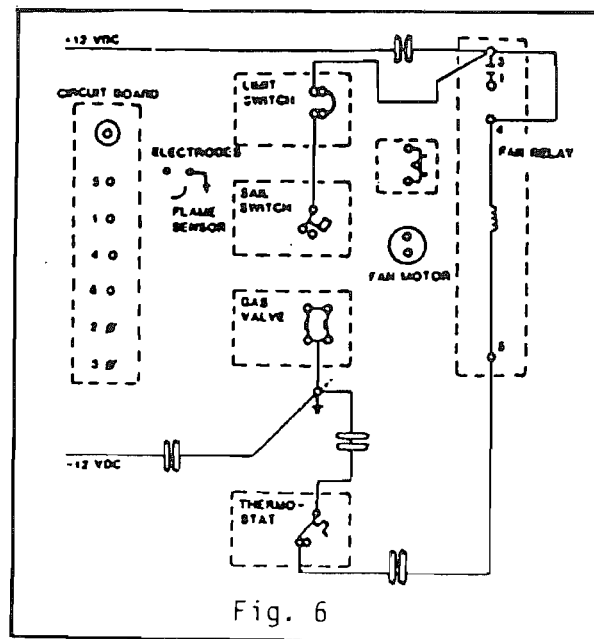

Fig. 6
- B. When the temperature inside the RV drops to the set temperature of the thermostat, the thermostat contacts close to (1) switch 12 VDC to terminal #5 of the fan relay terminal, (2) through the yellow wire to -12 VDC ground, thus the fan relay coil is energized. See Fig. 6